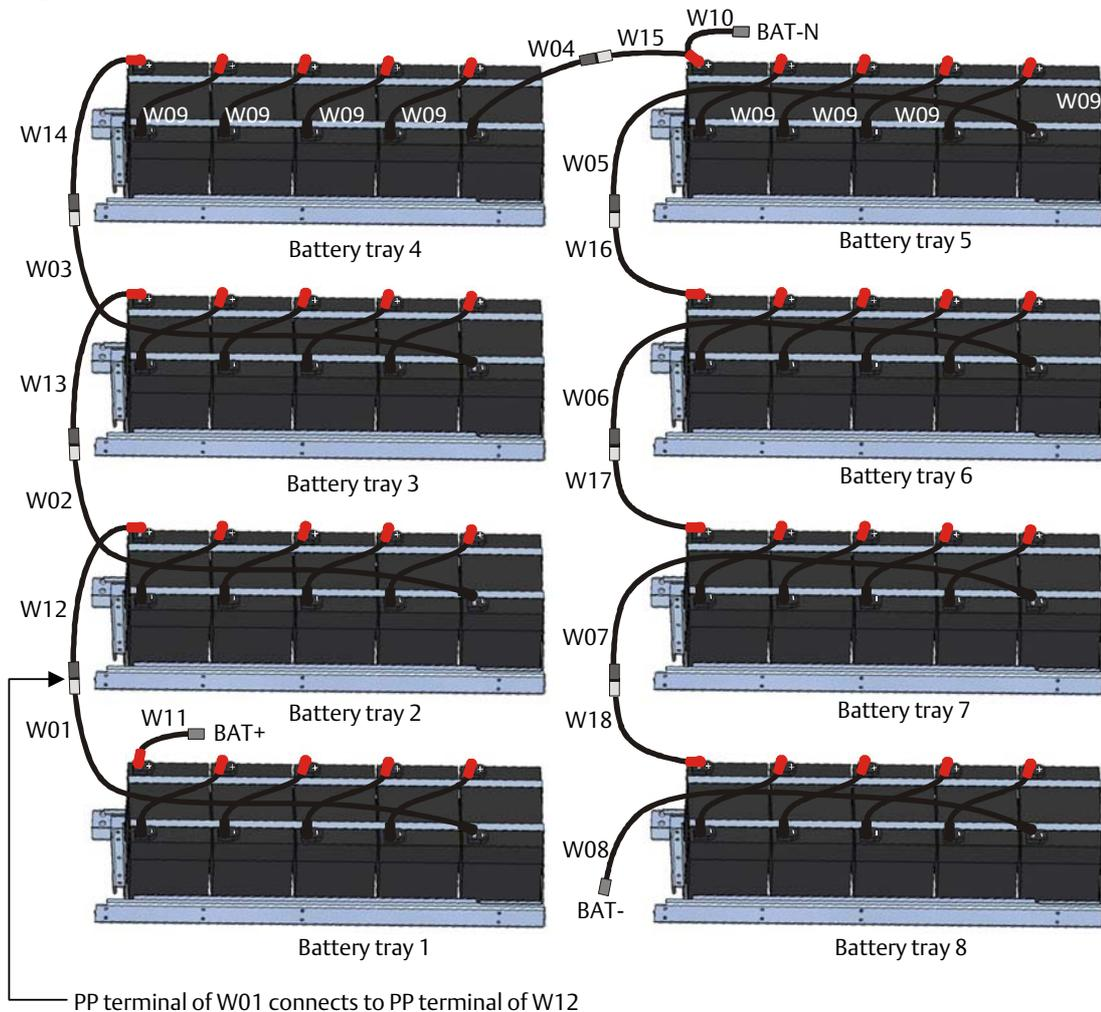

Figure 6-1 Connection for internal batteries (40-block)
8. See Figure 6-1 for battery connection.